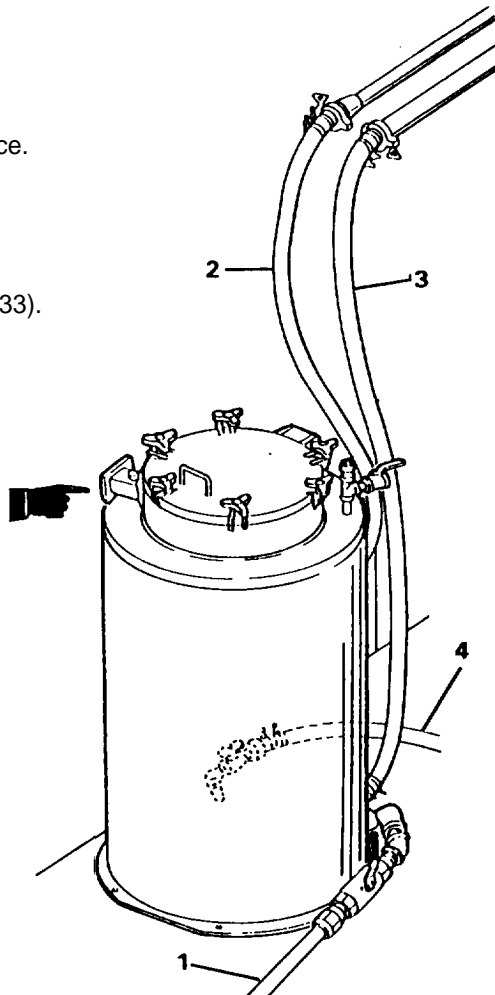

Figure 4-76. NBC Filter Hoses
- a. Disconnect hoses (1 thru 3, Figure 4-76) (para. 2-33).
b. Disconnect hose (4) (para. 4-65).